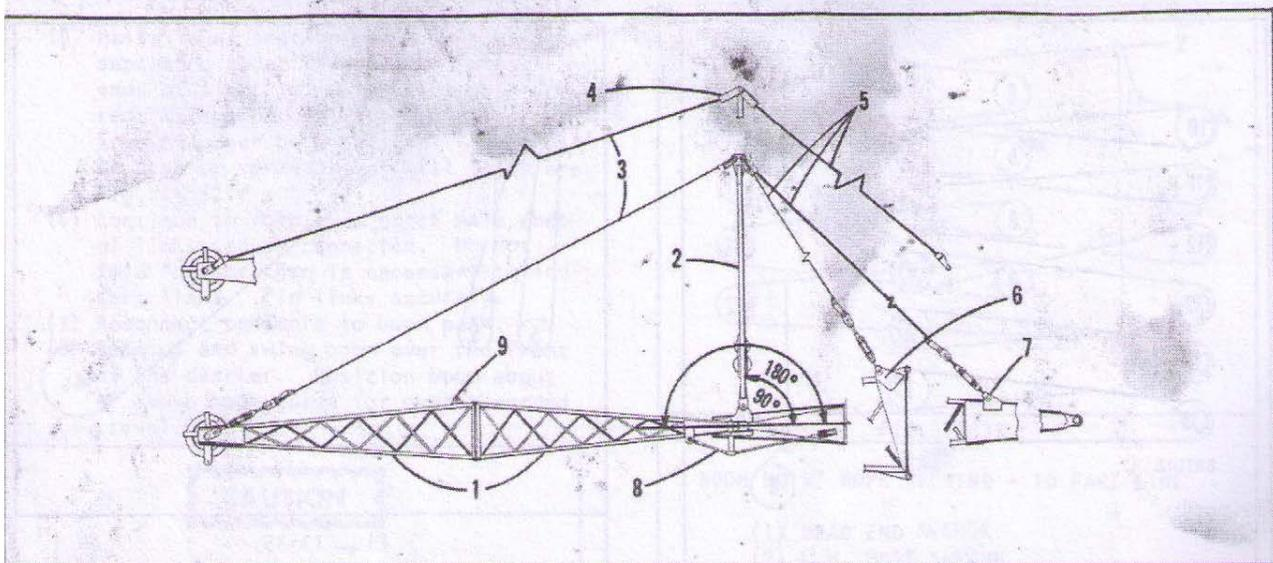

FIG. 13-37
- (1) With equalizer sheave (see Fig. 13-37)
- (2) Without equalizer sheave (see Fig. 13-37) two backstays are used and may be attached to either the boom upper section or lower section. Each line runs from a turnbuckle on the boom lug, to the top of the jib mast. A socket and wedge on each end of each line, pins to the turnbuckle and the jib mast. The turnbuckles must be adjusted so the two lines are equally loaded. Secure the turnbuckles against rotation with locknuts, and cotter pins through the threaded turnbuckle rod. Consult parts book for correct line length.